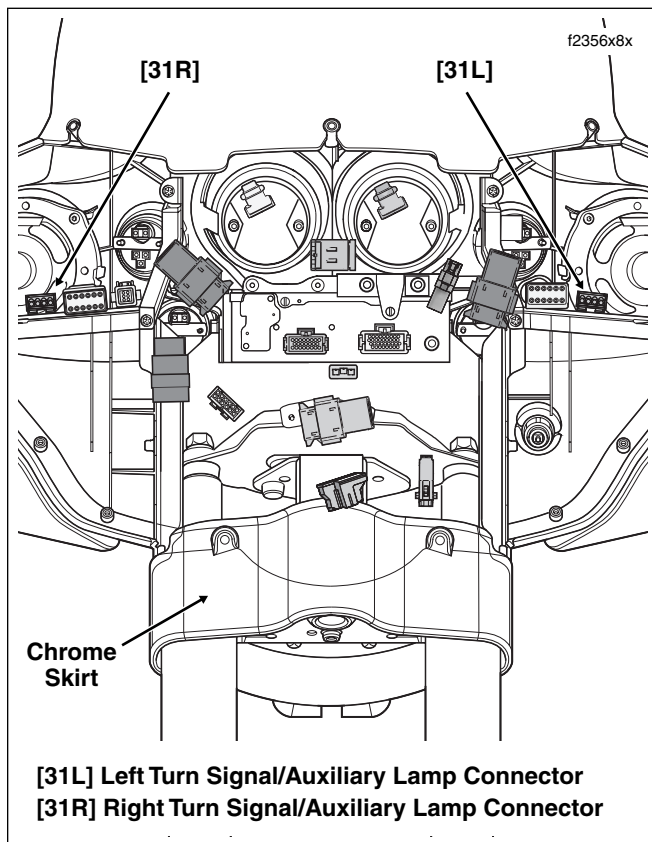

Figure 2-164. Inner Fairing (Front View)
2. Disconnect left and right front turn signal/auxiliary lamp connectors [31L/R], 4-place Multilocks, on T-studs at top of left and right fairing support braces (outboard side). See Figure 2-164.
5. Pull chrome skirt from inner fairing. See Figure 2-164.
34. Remove two T40 TORX screws from lower fork bracket. Install chrome skirt aligning thru holes with screws just removed. Start T40 TORX screws back into lower fork bracket. See Figure 2-164.